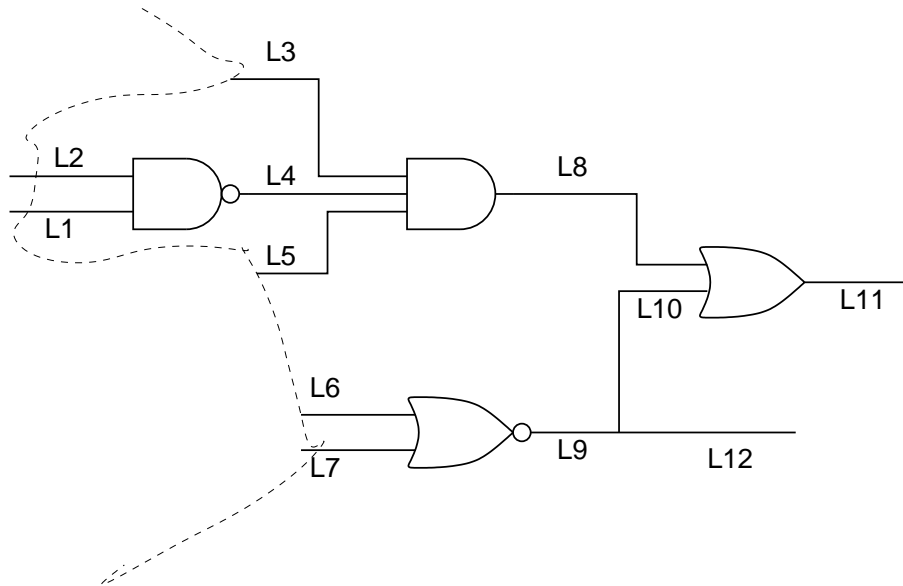

Figure 3: Circuit for Deductive Fault Simulation
- Part of a very large circuit is reproduced in Figure 3 below. The faults of interests are